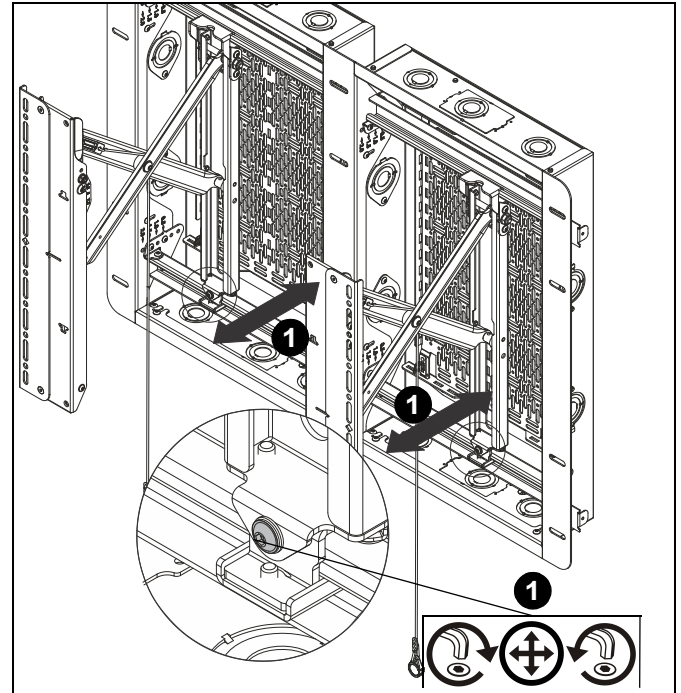

Figure 28
1. Adjust plumb adjustment screws to adjust plumb of each interface bracket (A and B). (See Figure 28)